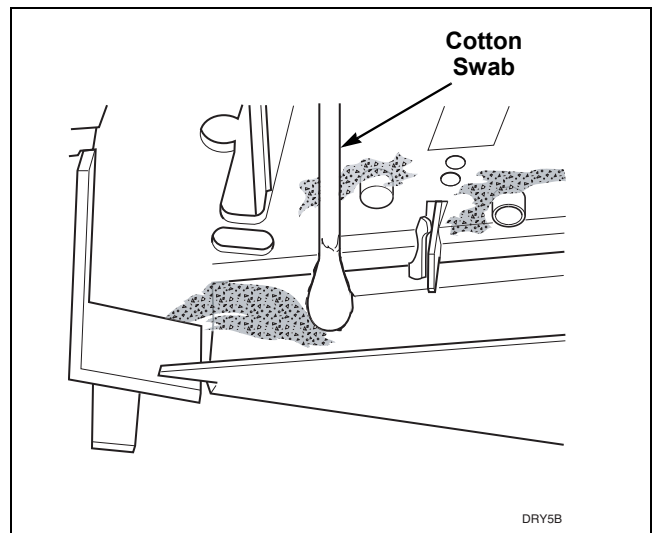

Figure 21
- h. Check coin path in coin drop for lint and residue. If lint or light residues are present, use a cotton swab to remove. If heavy residue is present, it may be necessary to first scrape off excessive residue and then use a cotton swab dipped in water or isopropyl alcohol (rubbing alcohol) to remove remainder of residue. Refer to *Figure 21*.